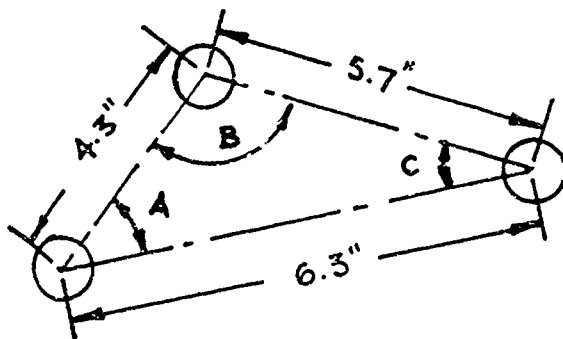

Figure 10: Find angles A, B and C.
4. You have been given a pattern of three holes to be drilled. Look at Figure 10. To check the accuracy of the position of the three holes, you need to find angles A, B, and C.